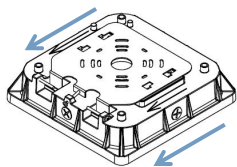

Figure 2
- Slide the mounting plate toward Screw A, and then remove it from the luminaire body (see Figures 2 & 3).